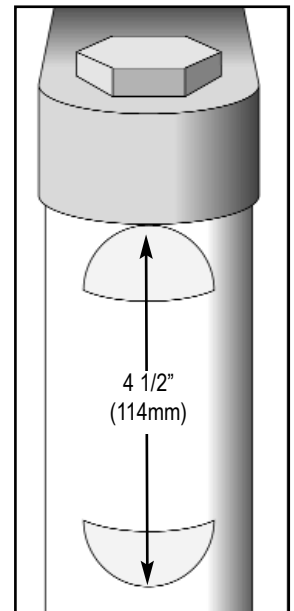

Figure 2.
1. Position the arch of the upper Burr Barrier so it just touches the bottom of the upper triple clamp. **Figure 2.**